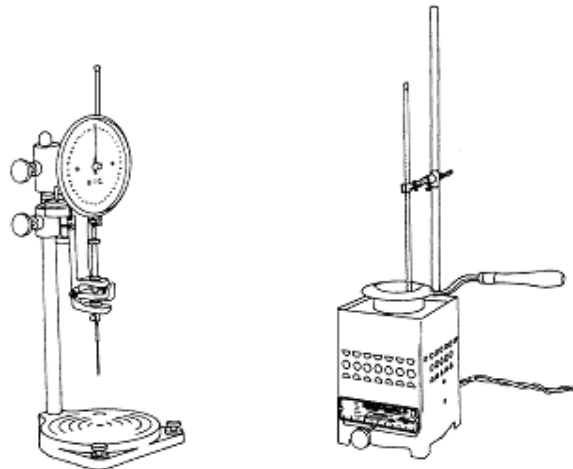

Figure 1
- h. Describe the two apparatus in figure 1. below and their use.